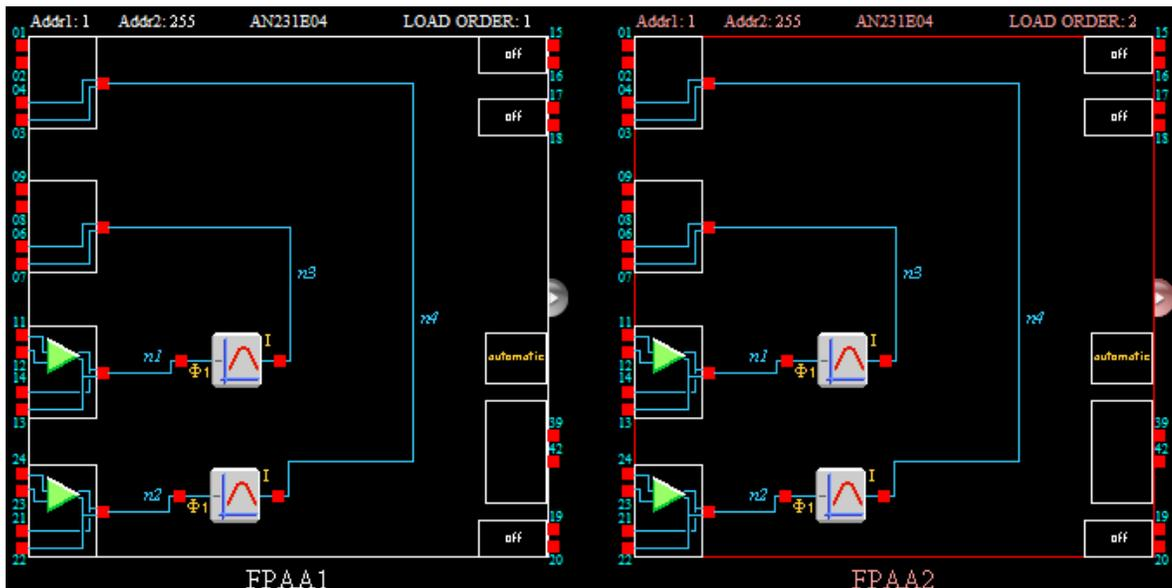

Figure 8: 2 FPAA Circuit
1. Create 2 FPAA circuit in AD2. AD2 will automatically give the 2 devices the IDs FPAA1 and FPAA2. This is shown in figure 8.